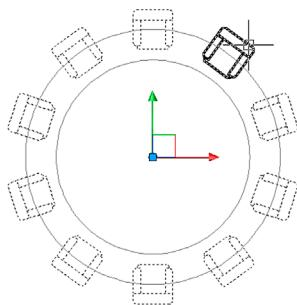

FIGURE 8.6 Edit Source.
- *Edit Source*: This option allows you to edit and modify the source object. These changes are then reflected in the overall array. If you forget which object was the original source, it does not matter; you can pick any of the chairs and work on it. Execute the command, say “Yes” if you see the Array editing State dialog box, select the object, modify it, and when done, type in `arrayclose`, or click on Save Changes on the Ribbon at the far right. Fig. 8.6 shows Edit Source in progress.